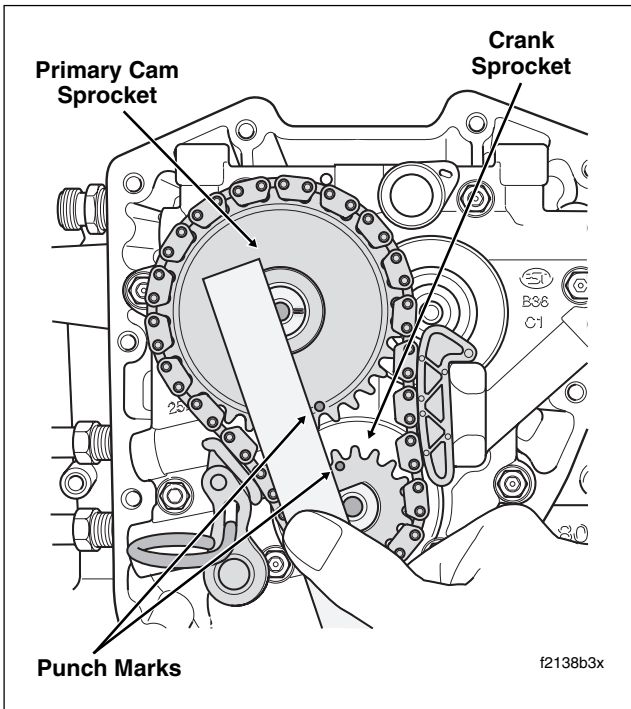

Figure 3-54. Verify Alignment of Crank and Primary Cam Sprocket Punch Marks
24. Rotate the primary cam sprocket in a clockwise direction until the punch mark on the root is aligned with the punch mark on the crank sprocket tooth. Lay a straight-edge across the centerline of the crank and primary cam sprocket flange bolt holes to verify that the punch marks are in alignment. See Figure 3-54.